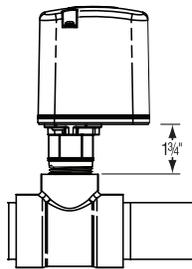

FIGURE 3
3. The Flow Switch must be installed in a 1" NPT threaded pipe fitting. If a reducing bushing or welded fitting is required, the length must be kept to a minimum to insure that the paddle can move freely in the run of the pipe without coming in contact with the bushing or fitting. Tighten the Flow Switch with a 1 5/8" box wrench or adjustable wrench applied to the brass nut only. **Do not tighten by grasping the enclosure.** Allow a 1 3/4" space from the bottom of the enclosure to the top of the tee (**Figure 3**) and be sure that the arrow on the side of the enclosure is in the direction of the flow.